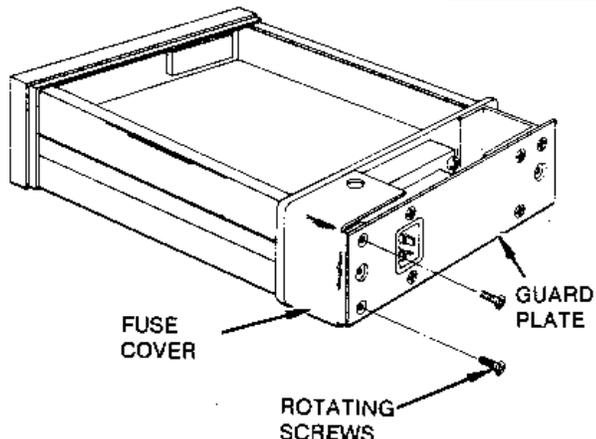
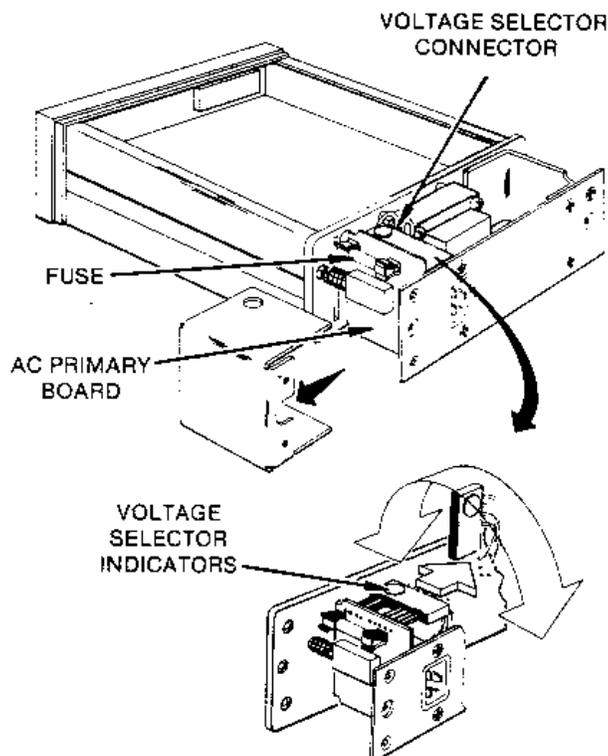
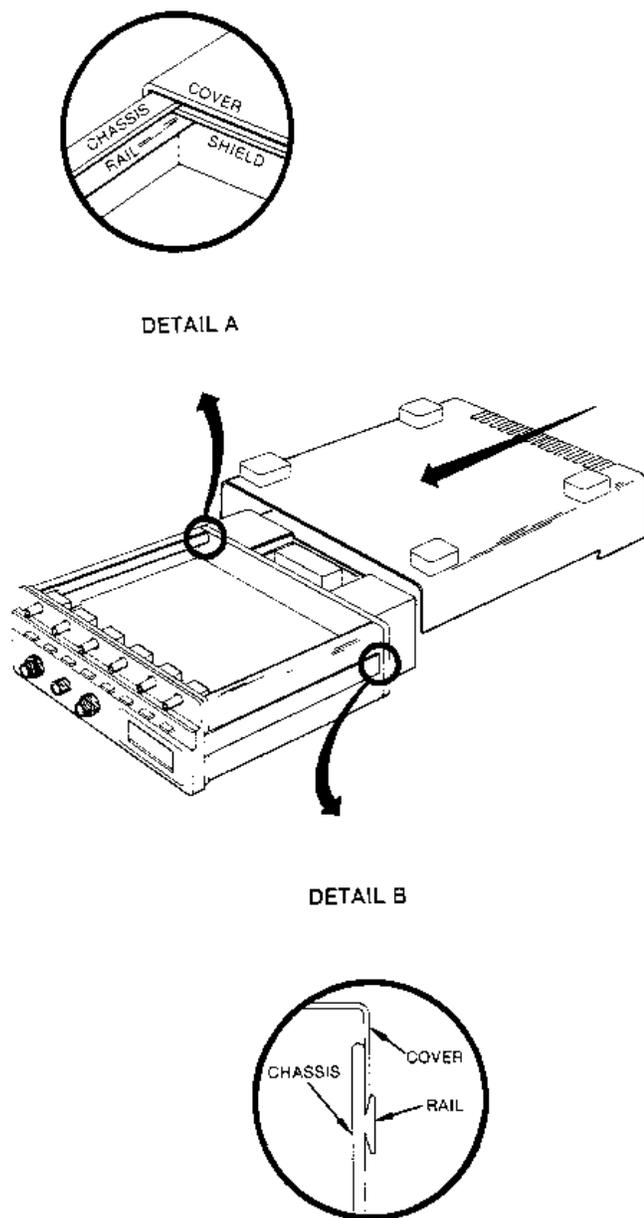

Figure 2-3. Guard Plate Removal
Figure 2-4. Fuse and Voltage Selection
Figure 2-5. Top and Bottom Cover Installation
If the line voltage is not correct, perform the following steps and refer to figure 2-3 for step 1, and figure 2-4 for steps 2 thru 4 to change the line voltage and fuse.
Refer to figure 2-3 for step 1 and figure 2-5 for steps 2 thru 4.
2. Turn the instrument upside down, position the bottom cover over the guard shield, and then slide the bottom cover forward approximately two inches while engaging the cover and slides (see figure 2-5, detail A and detail B). Don't slide the cover on yet.